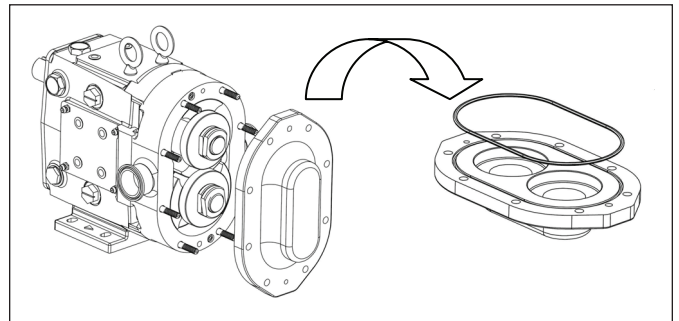

Figure 24. Removing Cover and Cover O-ring
2. Slide the cover off. If the cover is stuck to the pump body, use the soft mallet and tap the edges of the cover to break it loose. Remove the cover o-ring and discard it, as it should be replaced (*Figure 24*).